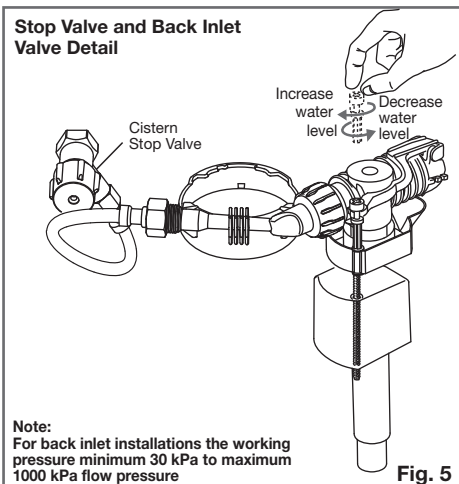

Fig. 5
- 4- Fit Cistern Stop Valve (supplied) to the 1/2" B.S.P. nipple in the wall using approved thread seal, in the downward angled position 45° to the right hand side, as detailed in **Fig. 5**.